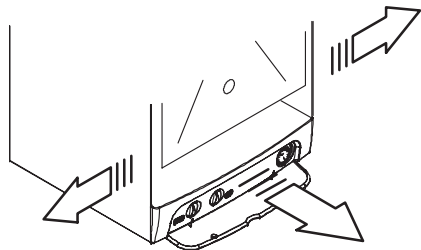

Fig. 6.15
- Remove the side panels or move the lower part of the side panels as indicated in Fig. 6.15 and pull the control panel. When completely pulled out, the panel can rotate 45° downwards to facilitate the operations on the internal parts.